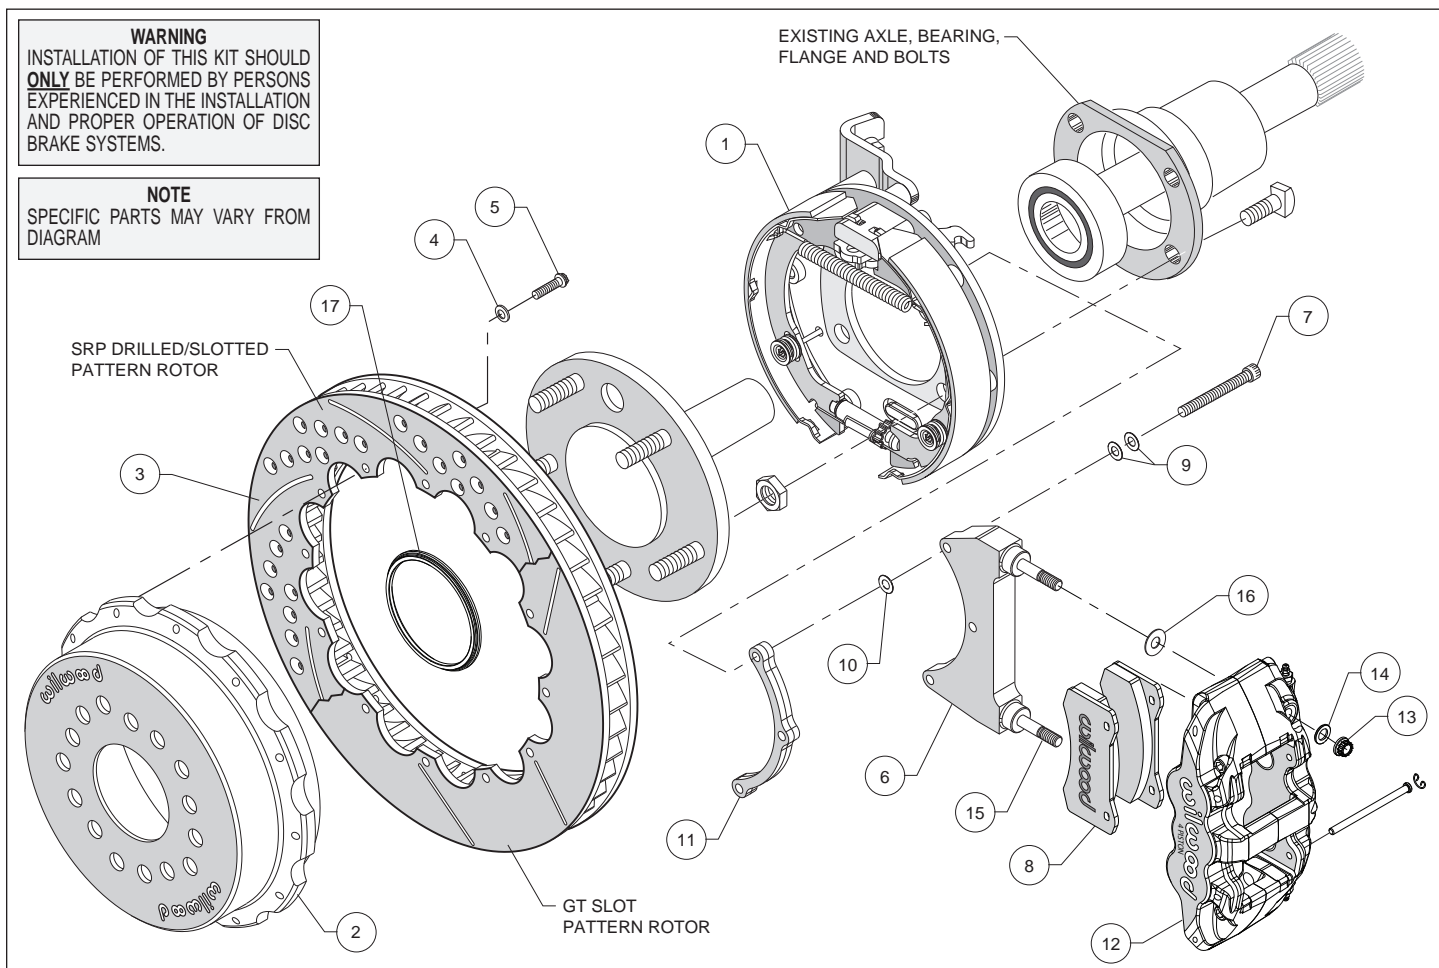

Figure 1. Typical Installation Configuration
- Slide the rotor registration adapter (17) onto the axle register on the axle flange with the smaller O.D. facing toward the rotor/hat (2). Align the correct hole pattern in the hat with the stud pattern on the axle flange. **NOTE:** *Some OEM and aftermarket axles come with stud sizes larger than 0.50" diameter.* Verify stud size and have a qualified machine shop drill the hats to the correct size, if necessary. Slide the hat/rotor assembly (2 and 3) over the wheel studs covering the bracket kit assembly (1) and against the axle flange face. Check to be sure the hat seats squarely against the hub. Install three lug nuts (finger tighten) to keep the rotor/hat assembly in place while continuing with the installation.
- NOTE:** *Please reference the caution statement at the beginning of the assembly instructions.* The caliper mounting bracket assembly (6) should be installed first with clean, dry threads on the mounting bolts (7). Install the bracket from the rear side of the bracket kit assembly (1) by sliding bolt (7) through two flat washers (9), bracket (6), shim washer (10) and finally through the spacer (11), see Figure 1. **NOTE:** *End of bolt should not exceed inside face of insert. The bracket must tighten squarely against the back side of the bracket kit assembly (1).* Inspect for interference from casting irregularities, machining ridges, burrs, etc. Use one thin shim (10) between the bracket (6) and spacer (11) during initial trial fitting.
- Lubricate caliper mounting studs and nuts with lightweight oil. Install one washer (16) over each pre-installed stud (15) on the radial mount bracket (6). Slide the caliper (12) in place over the studs and rotor, then install the washer (14) and lock nut (13) to hold the caliper in place. The caliper bleed screws should be pointing up. Snug the lock nuts (13) and check that the rotor (3) is centered in the caliper (12). Add or subtract .015" shims (10) as necessary between the caliper mounting bracket (6) and the spacer (11) to center the caliper (12).
- Remove the two pad retaining pins from the caliper (12) by carefully popping out the pin retaining clips and sliding out the pins. Insert the brake pads (8) into the caliper from the bottom, Figure 1. With the friction material facing the rotor, secure the brake pads in place with the pad retaining pins and clips. Reinstall the caliper onto the caliper mounting bracket and temporarily tighten the lock nuts. Check that the top of the brake pad is flush with the outside diameter of the rotor. If not, adjust by adding or subtracting shims (16) between the caliper and the bracket.
- Adjust the parking brake shoes outward (using a drum shoe adjustment tool available at your local auto parts store) while spinning the hat (2) until a slight drag is felt against the hat/drum. Remove the lug nuts that were holding the hat/rotor in place. Install the wheel and lug nuts. Check to see that the wheel rotates freely without interference.
- Once all clearances have been checked, remove the wheel, caliper, hat/rotor from the bracket kit assembly (1). Secure the caliper mounting bracket (6) to the bracket kit assembly (1) using red *Loctite*[®] 271. Torque bolts (7) to 180 **in-lb**. Reinstall the hat/rotor assembly and again use lug nuts to hold it in place. Reinstall the caliper, torque the caliper nuts (13) to 47 ft-lb.
- NOTE:** *Clevis and cable kits which attach to the parking brake assembly are not included in the Wilwood parking brake kit.* Wilwood offers a generic style parking brake cable kit, P/N 330-9371 for this application which can be ordered separately from your local Wilwood dealer or by calling Wilwood customer service at (805) 388-1188.